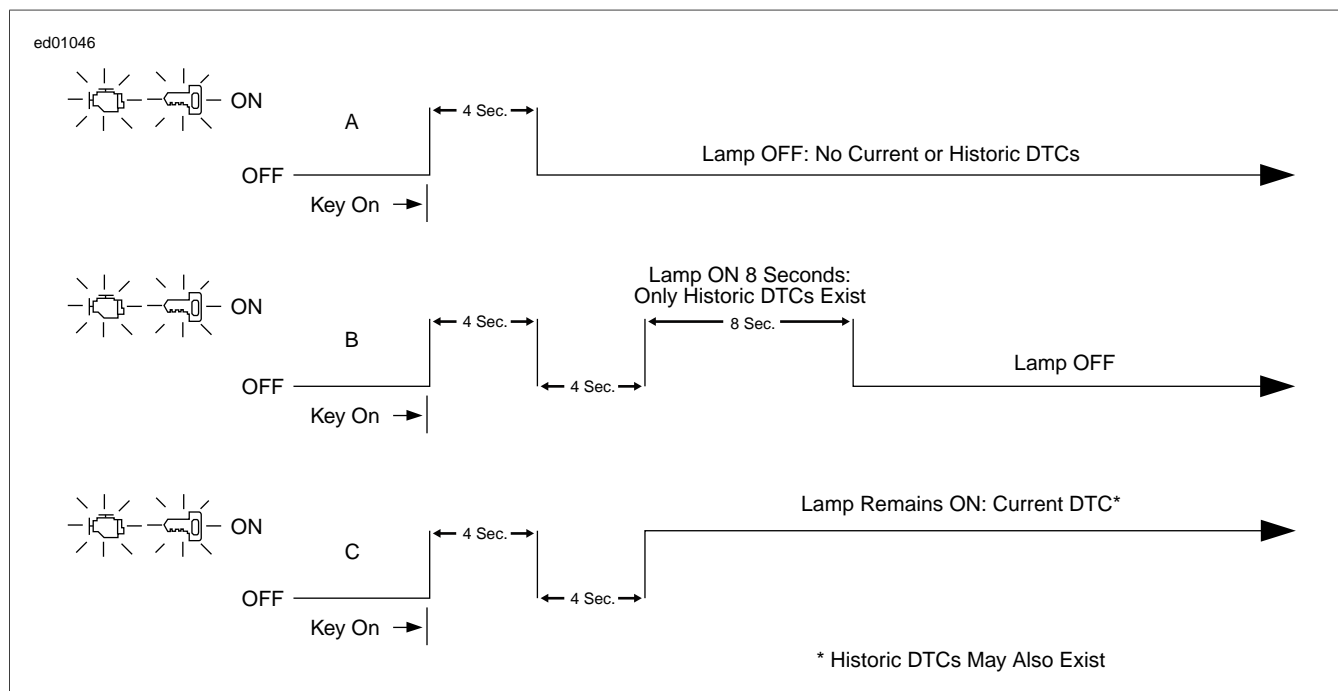

Figure E-7. Security Lamp Operation
- See Figure E-7. After the lamp turns off after being illuminated for the first 4 second period, one of three events may occur: